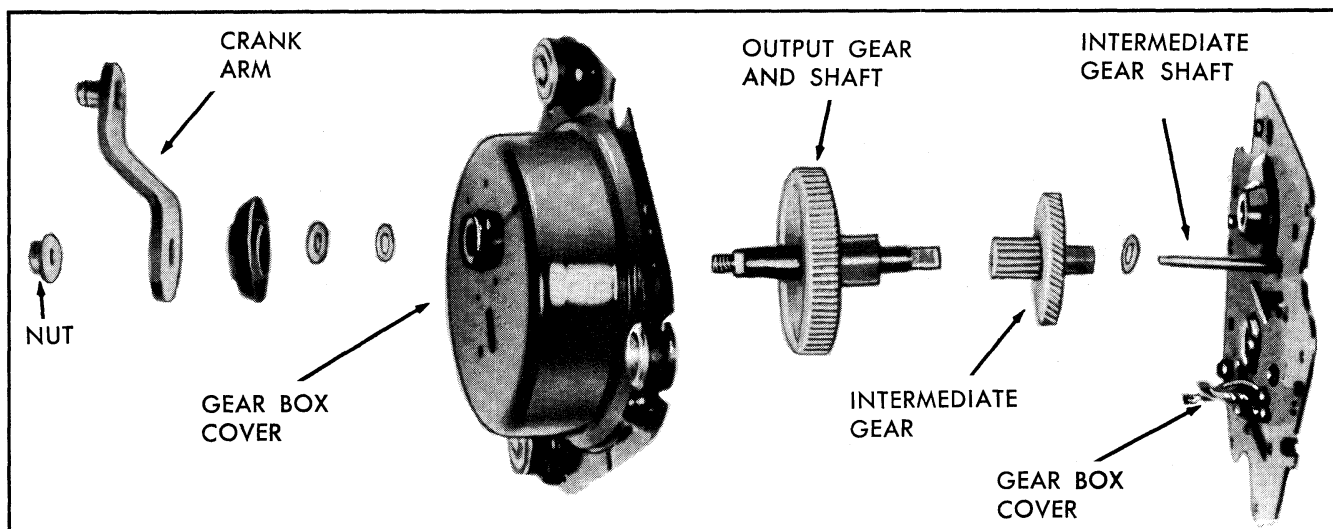

Fig. 11-92 Gear Box - Exploded View
3. Remove output gear and shaft assembly, then slide intermediate gear and pinion assembly off shaft. (Fig. 11-92).